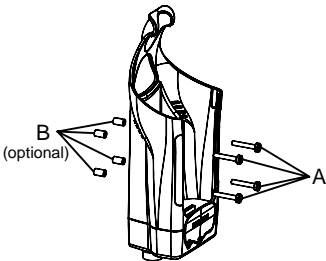

Figure 3 – Mounting with Screws
### **Mounting with Screws (see Figure 3)**
2. Insert the four screws in the cradle mounting holes, see Figure 3, A;
3. One or more spacers can be used optionally to compensate for mounting to irregular surfaces, see Figure 3, B;